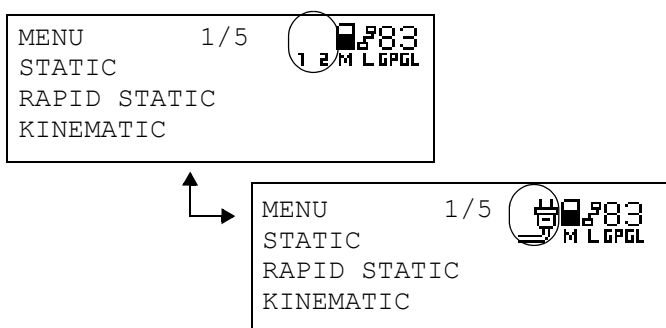

Figure 2-7. Display – Charging Over-discharged Batteries
- To charge over-discharged batteries, conduct preliminary charging first. During preliminary charging, the status icons displayed in Figure 2-7 alternate. When preliminary charging completes, the screen for regular charging displays.